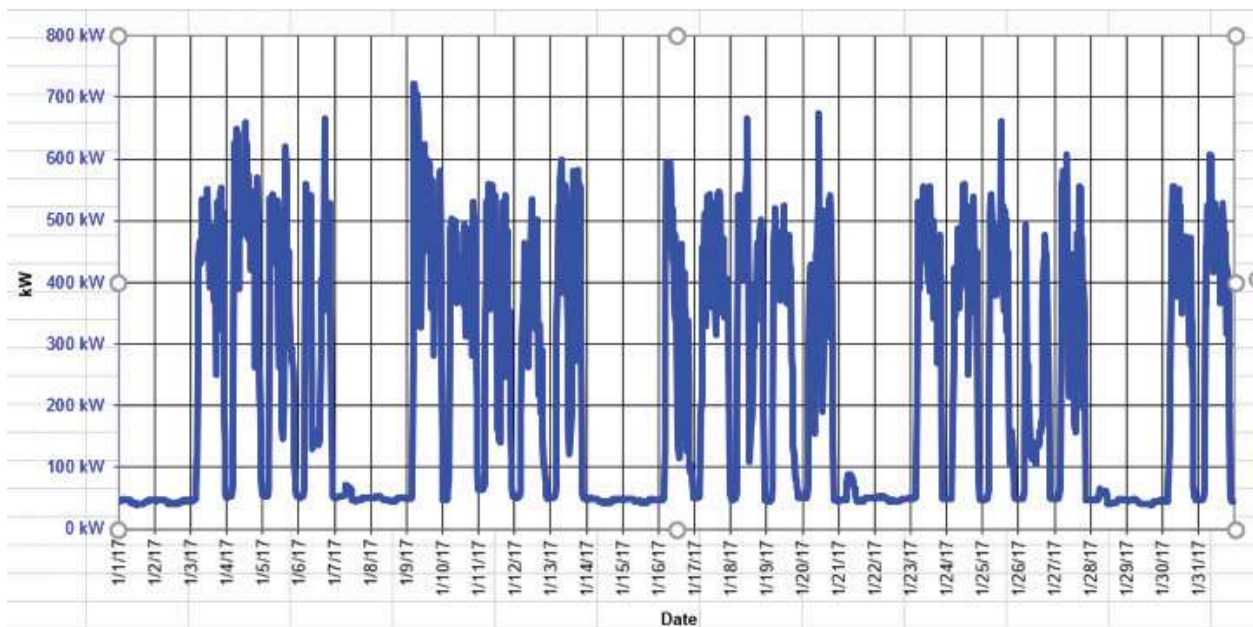

Figure 1. Demand profile example
- *Figure 1* is an example of a demand profile.